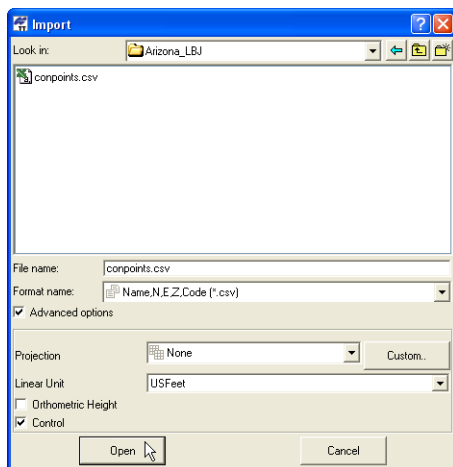

Figure 4-11. Sample Coordinate File
2. On the *Import* dialog box, select the control points file and the format name; for example, “conpoints.csv” and “Name,N,E,Z,Code”, respectively (Figure 4-11 on page 54).